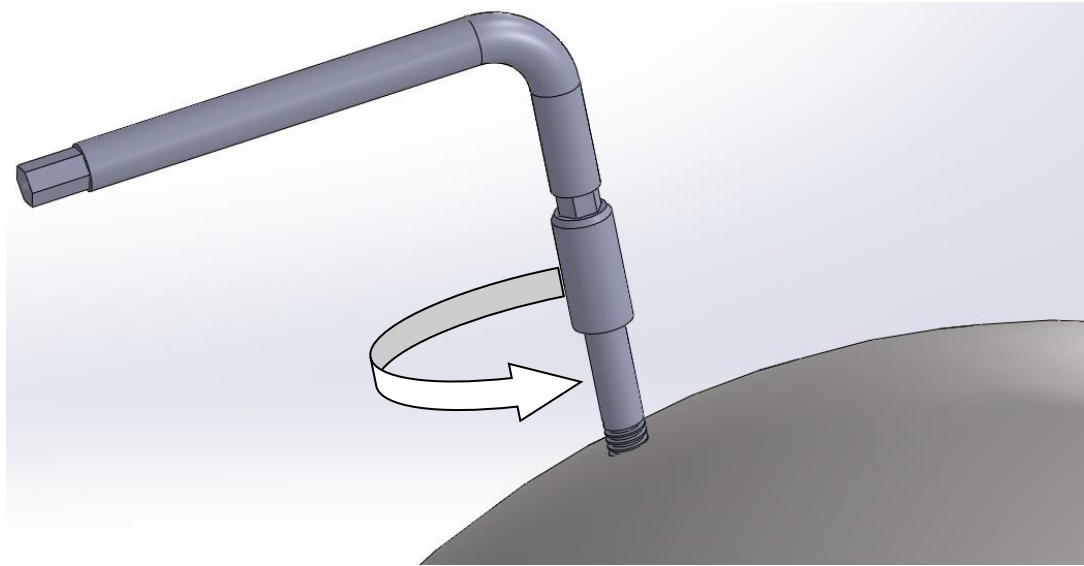

Figure 4 - Using the Hex Key to remove a Bolt
15. If the Bolt cannot be removed with the Driver, then use the MR Hex Key (NGS-HX-M6) to remove the Bolt as shown in Figure 4.